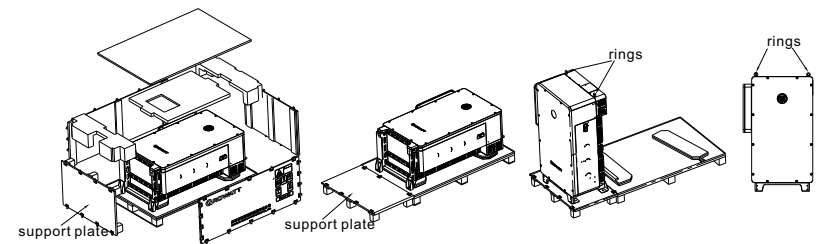

Fig 5.6 Hoisting the BSE100KH3 Inverter
- 1> As shown in Fig 5.6 below, unpack the BSE100KH3 Inverter (remove the top panel and the support plates). Then piece the support plates together with the bottom panel. Install the hoisting rings and pull out the handles. Turn the BSE100KH3 Inverter upright using the handles. Run a rope strong enough to bear the inverter through the hoisting rings and hoist the equipment, and then move the inverter to the installation position;